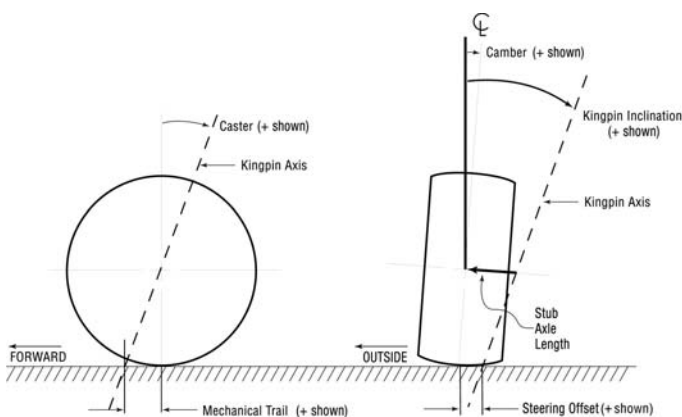

Figure 1 - Steer Axis Geometry
These parameters are shown in Figure 1. A description of each follows.
**Caster** is the rearward tilt of the steering (kingpin) axis. Caster causes the steering axis to intersect the ground at a point ahead of the tire's contact point. This produces a moment arm about the steering axis. This moment arm is called mechanical trail (see Figures 1 and 2). If you can imagine a wheel that is steering about a rearward-tilted axis, you can see that the elevation of the tire's contact point with the ground varies with respect to the vehicle: As the steer angle increases the contact point z-coordinate decreases. Thus, gravity's force on the tire tries to steer the tire. Generally, other factors present would try to steer the tire outward.
**Inclination Angle** is the inward tilt of the steering axis. Its effect is similar to caster angle. If you can imagine a wheel that is steering about an inward-tilted axis (see Figures 1 and 2), you can see that the elevation of the tire contact point will change (just as for caster; see above) unless the steer axis intersects the tire contact point at the wheel plane.